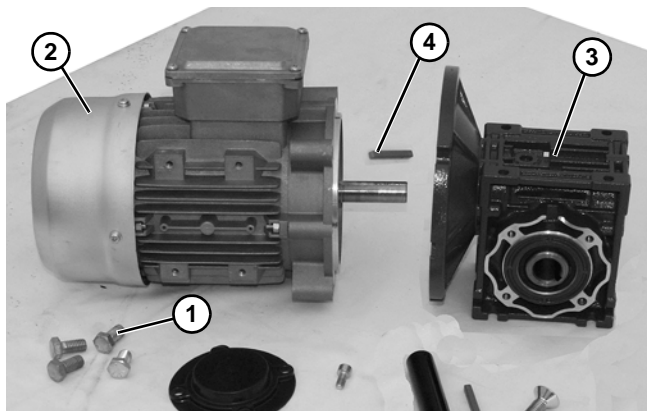

Figure 20
6. Remove four screws (**Figure 20, item 1**). Detach motor (**Figure 20, item 2**) from gear reducer (**Figure 20, item 3**). Retain shaft key (**Figure 20, item 4**).
13. Apply anti-seize to motor shaft before assembling to gearbox. With key (Figure 20, item 4) in keyway, slide motor (Figure 20, item 2) and gear reducer (Figure 20, item 3) together. Install screws (Figure 20, item 1) and tighten.